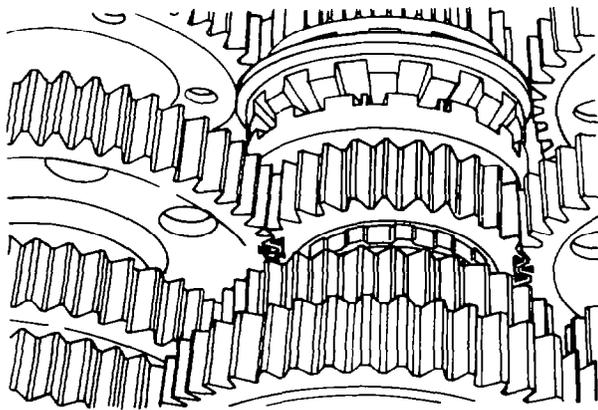

Figure 182 — Timing Countershaft Gears
- t. Remove the lifting equipment from the mainshaft, then using special tool J-23667, align the timing marks on one countershaft with the timing marks on the mainshaft drive and ninth/tenth gears (see Fig. 182). As the countershaft is timed, remove the fabricated tools from the ends of the countershaft, then install both the front and rear bearings (including retainers) onto the countershaft and lubricate the bearings with transmission oil.